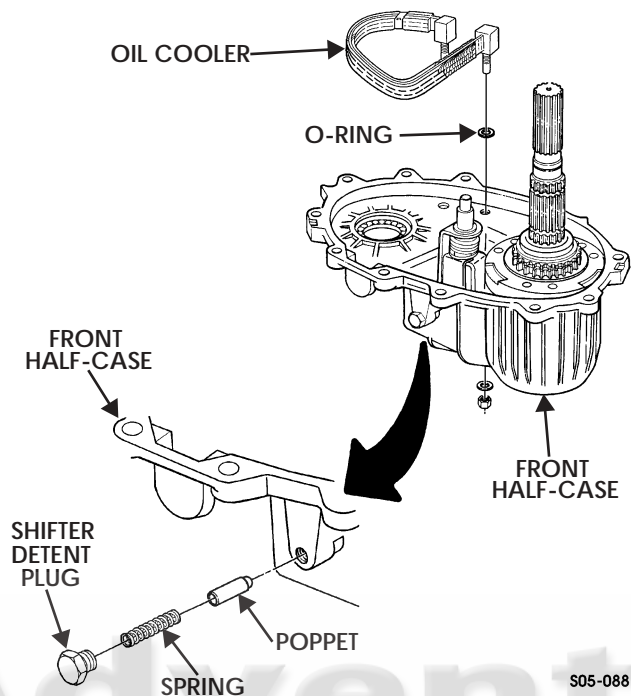

Figure 5-141: Plug, Spring, and Poppet
28. Remove shifter detent plug, spring, and poppet from front half-case (Figure 5-141).